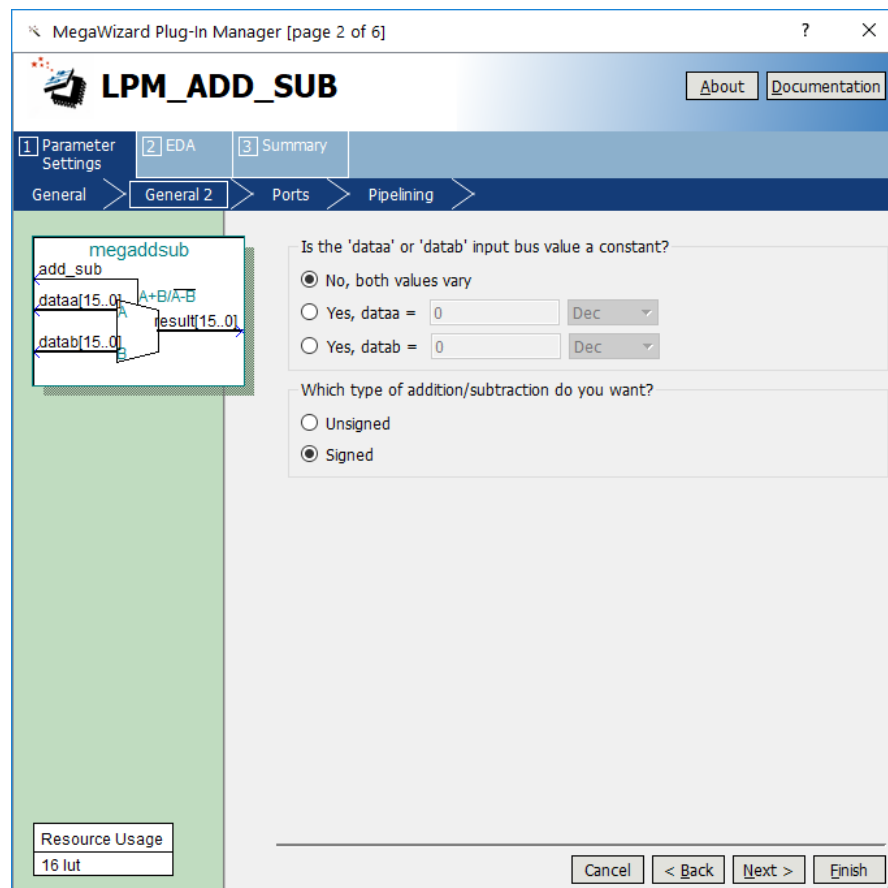

Figure 7. Further specification of inputs.
5. In the box in Figure 7, specify that the values of both inputs may vary and select **Signed** for the type of addition/subtraction. Click **Next**.